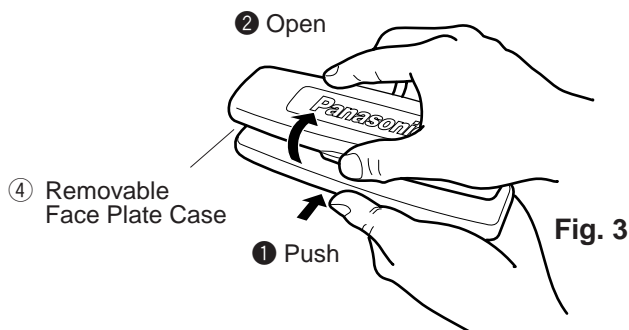

Fig. 3
- ④ As shown in Fig.3, gently push the lower side of the case and open its cover. Keep the face plate in the case. Then, you can bring the plate safely.